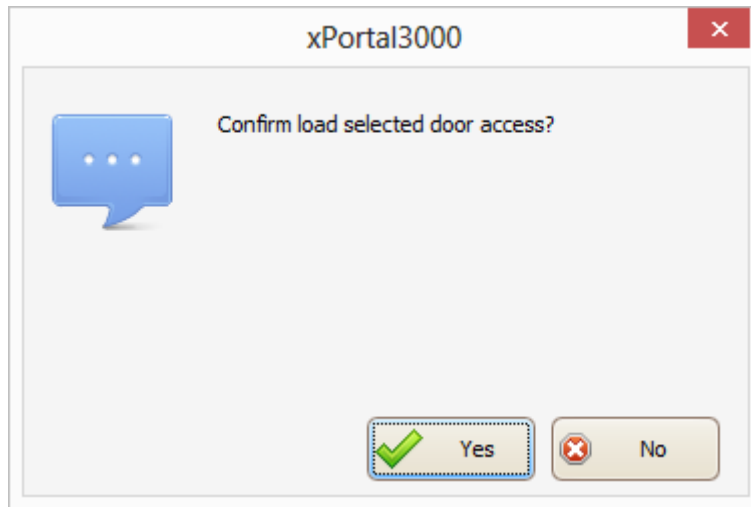

Figure 202 - Confirm Load Door Access
10. The following screen will be shown (Refer **Figure 202**).